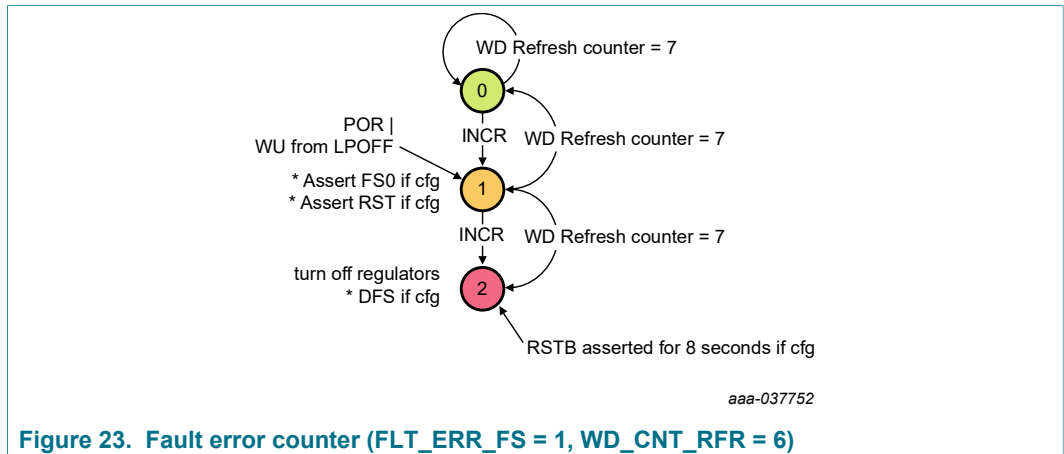

Figure 23. Fault error counter (FLT_ERR_FS = 1, WD_CNT_RFR = 6)
- FLT_ERR_FS = 1/Intermediate = 1; Final = 2 (Figure 23).